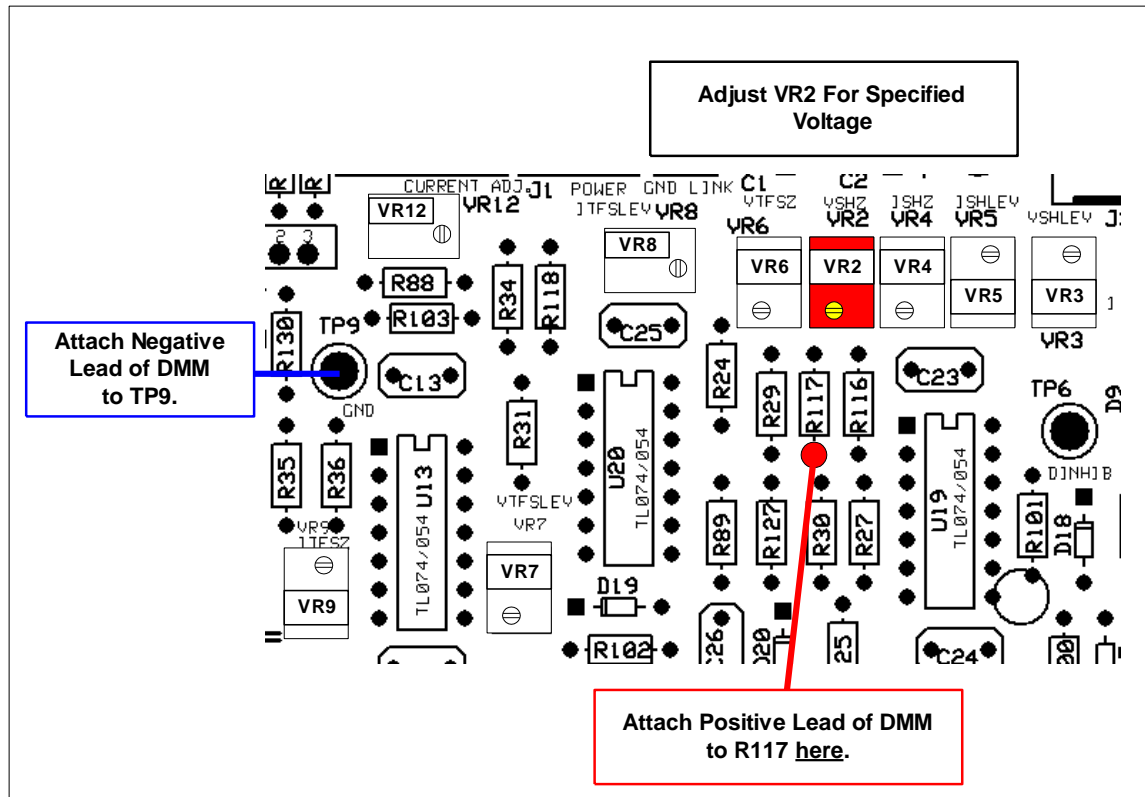

Figure 9-4: Initial Zero Voltage Calibration
3. Connect the positive lead of the DMM to the end of R117 indicated in **Figure 9-4**.